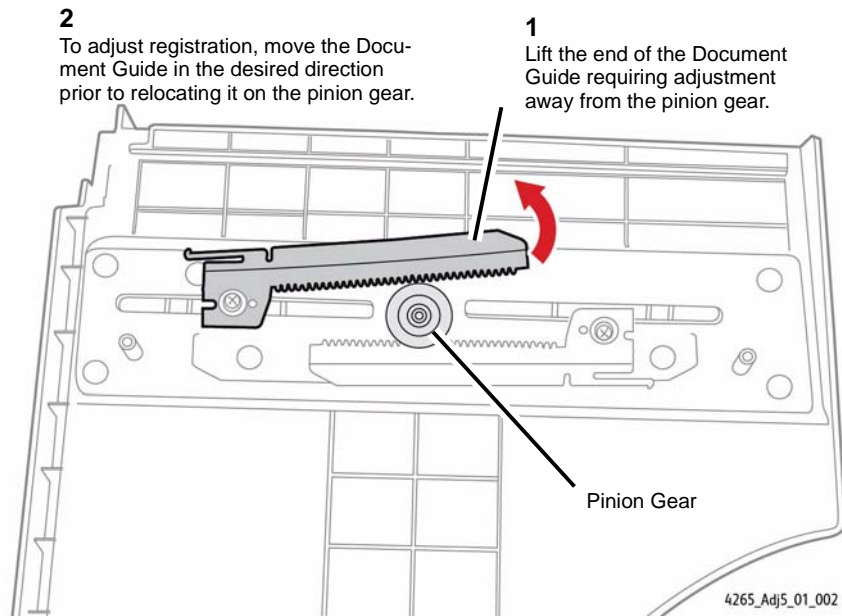

Figure 2 Adjusting the DADF Side Edge Registration
- Adjust the DADF side edge registration (Figure 2).